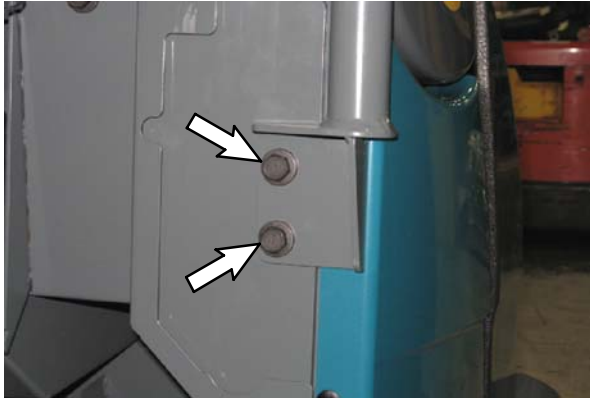
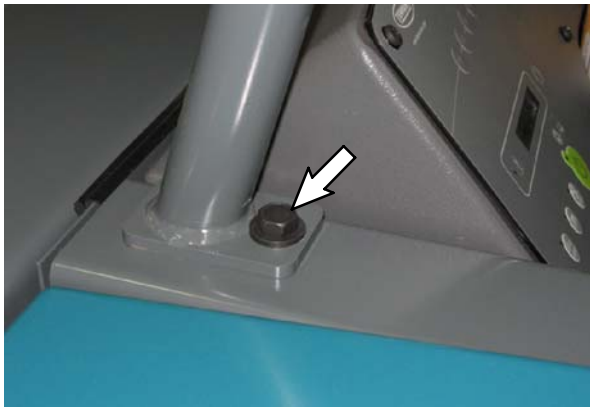
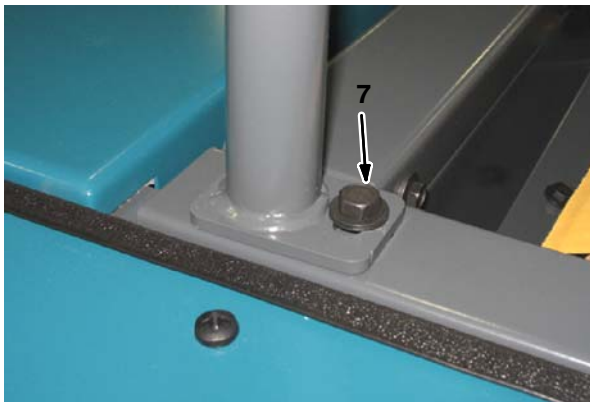
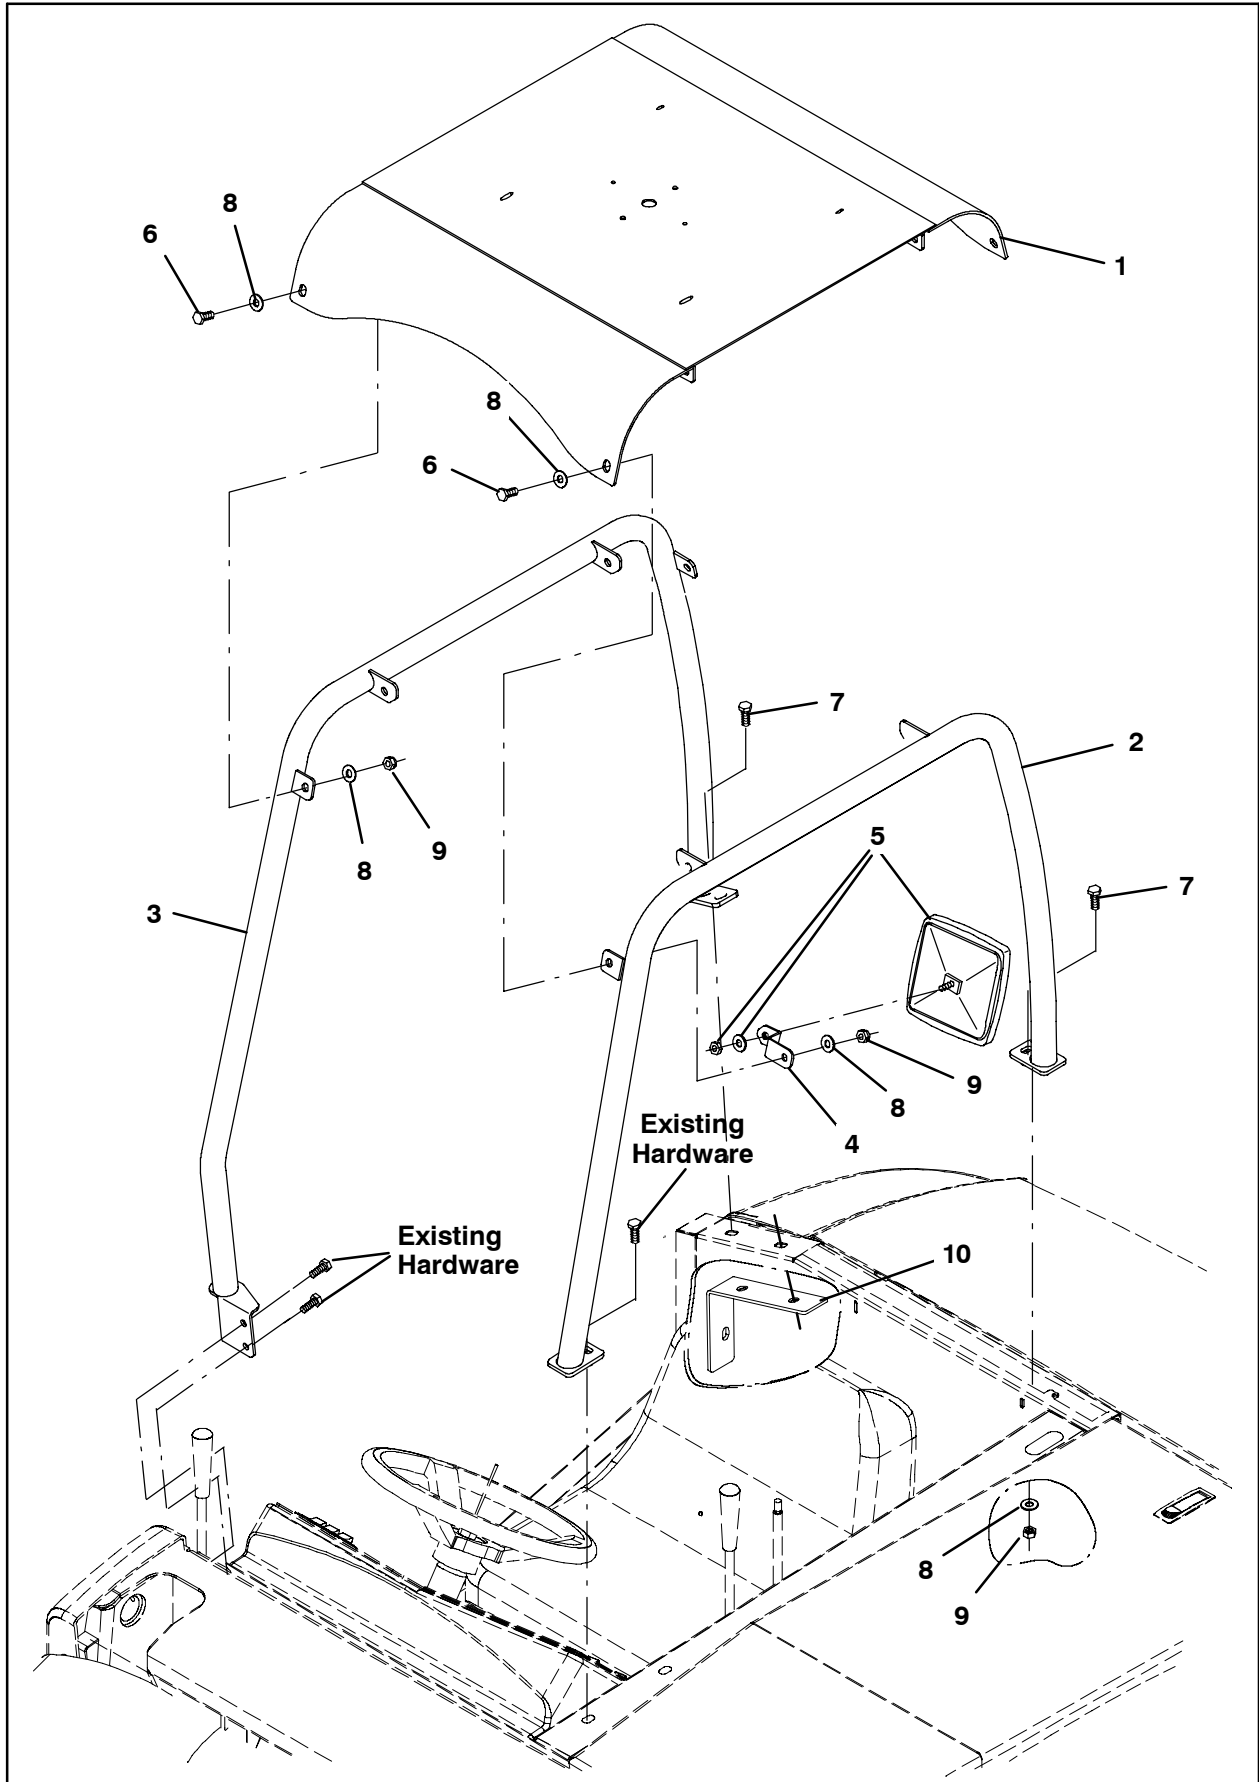

FIG. 5
FIG. 6
FIG. 7
FIG. 9
9. Use existing hardware already installed on machine to install the front leg of the right guard leg (3) to the machine. Refer to Fig. 5 and Fig. 9.
10. Use existing hardware already installed on the machine to install the front leg of the left guard leg (2) to the machine. Refer to Fig. 6 and Fig. 9.
11. Use a hex screw (7), one flat washer (8), and a lock nut (9) to install the rear leg of the left guard leg (2) to the machine. Refer to Fig. 7 and Fig. 9.
12. Use a hex screw (7) to install the rear leg of the right guard leg (3) to the machine and support bracket (10). Refer to Fig. 8 and Fig. 9.
13. Tighten all loose hardware. Refer to Fig. 9.